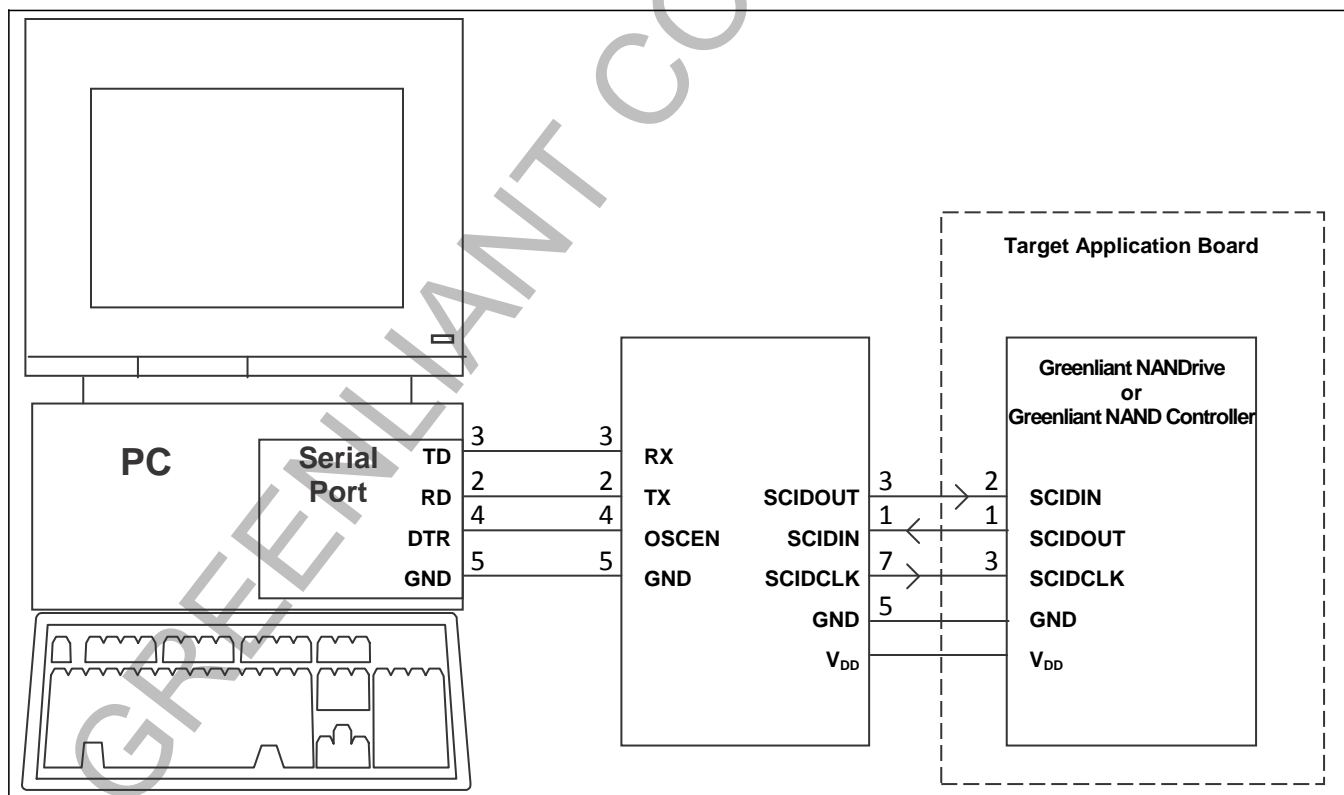

Figure 1: System Block Diagram
The SCI Module provides appropriate voltage conversion and connection between the PC serial port and the SCI input/output pins of the NAND controller or NANDrive. SCI Module power is provided by the target application board. See Figure 1 for the system block diagram.
- Connect the SCID_{OUT}, SCID_{IN}, and SCICLK pins of the SCI Module to the SCID_{IN}, SCID_{OUT}, and SCICLK pin on the NAND Controller or NANDrive (Please refer Figure 1).